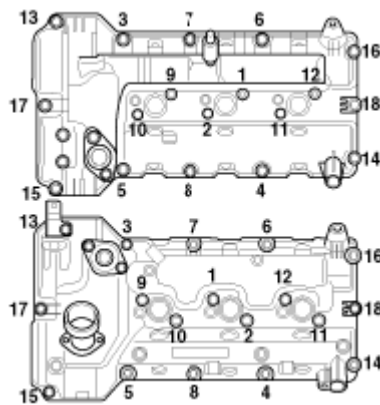

Fig. 90: Identifying Tightening Sequence Of Cylinder Head Cover Bolts
4. Install the cylinder head cover bolts as shown in **Fig. 90**.